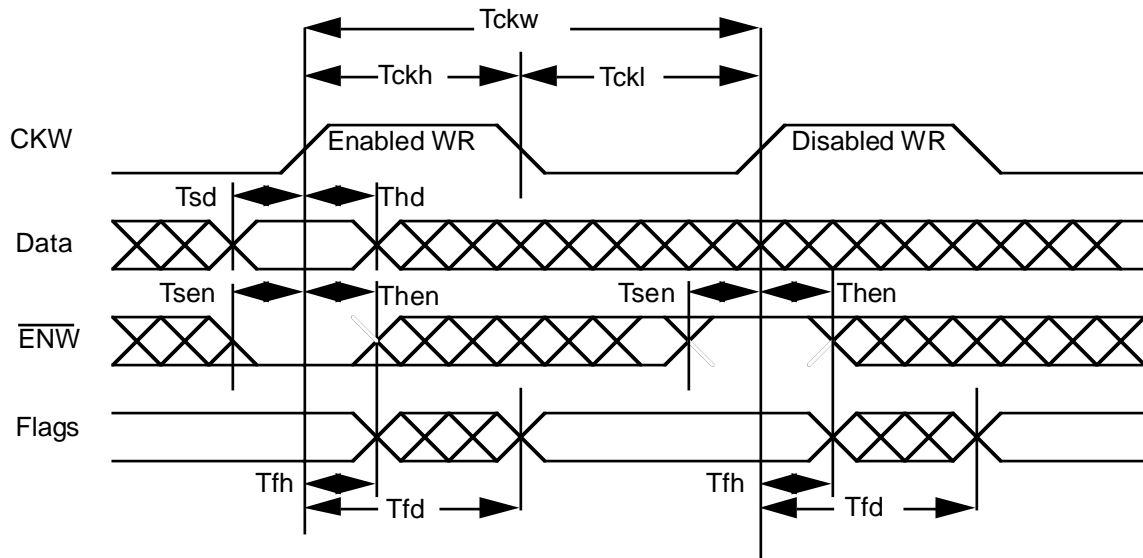

Figure 1. Write Timing
- (1) Test conditions: input switching levels $V_{IL}/V_{IH}=0.5V/V_{DD}-0.5V$ (CMOS), $V_{IL}/V_{IH}=0V/3V$ (TTL), input rise and fall times <1 ns/V, input and output timing reference levels shown in the Tester AC Timing characteristics Table, capacitive output loading $C_L=50$ pF. For $C_L >50$ pF, derate access times by 0.02 ns/pF (typical).
- (2) Worst case operating conditions: $V_{DD}=4.5V$ to $5.5V$, $TC=-55^\circ C$ to $+125^\circ C$, post total dose at $25^\circ C$.
- (3) For flag updates, $tskew1$ is the minimum time an opposite clock can occur after a clock and still not be included in the current clock cycle. At less than $tskew1$, inclusion of the opposite clock is arbitrary.
- (4) For flag updates, $tskew2$ is the minimum time an opposite clock can occur before a clock and still be included in the current clock cycle. At less than $tskew2$, inclusion of the opposite clock is arbitrary.
- (5) Timing parameters are defined in Figures 1 through 6.